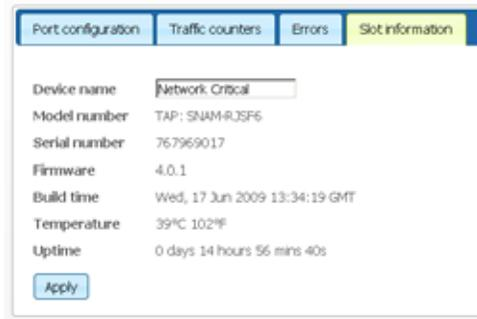

Figure 30: Slot information details
- 3 Click **Configuration and Status**, and then select the **Slot information** tab to display the slot details (*Figure 30*).